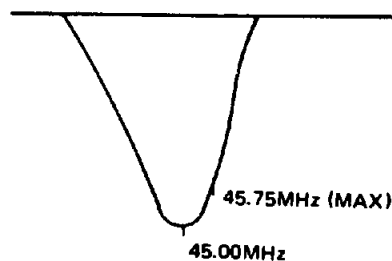

Figure 21. I-F (45.75MHz) Response Curve
2. Adjust L104 for maximum amplitude at 45.75MHz. (See Fig. 21)